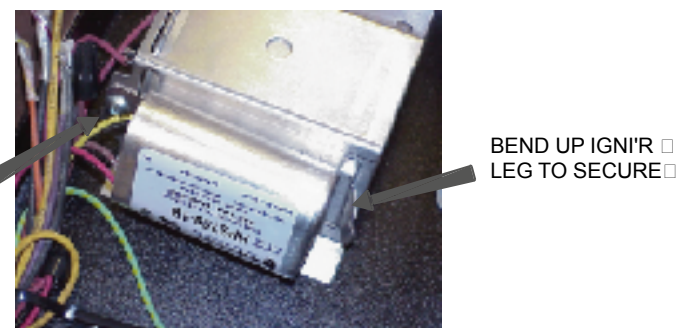

Figure 2
9. If provided, install new ignitor to side of capacitor clamp using provided screw. See Figure 2.
12. Remove (5) hex nuts securing reflector assembly. Lift assembly from housing.